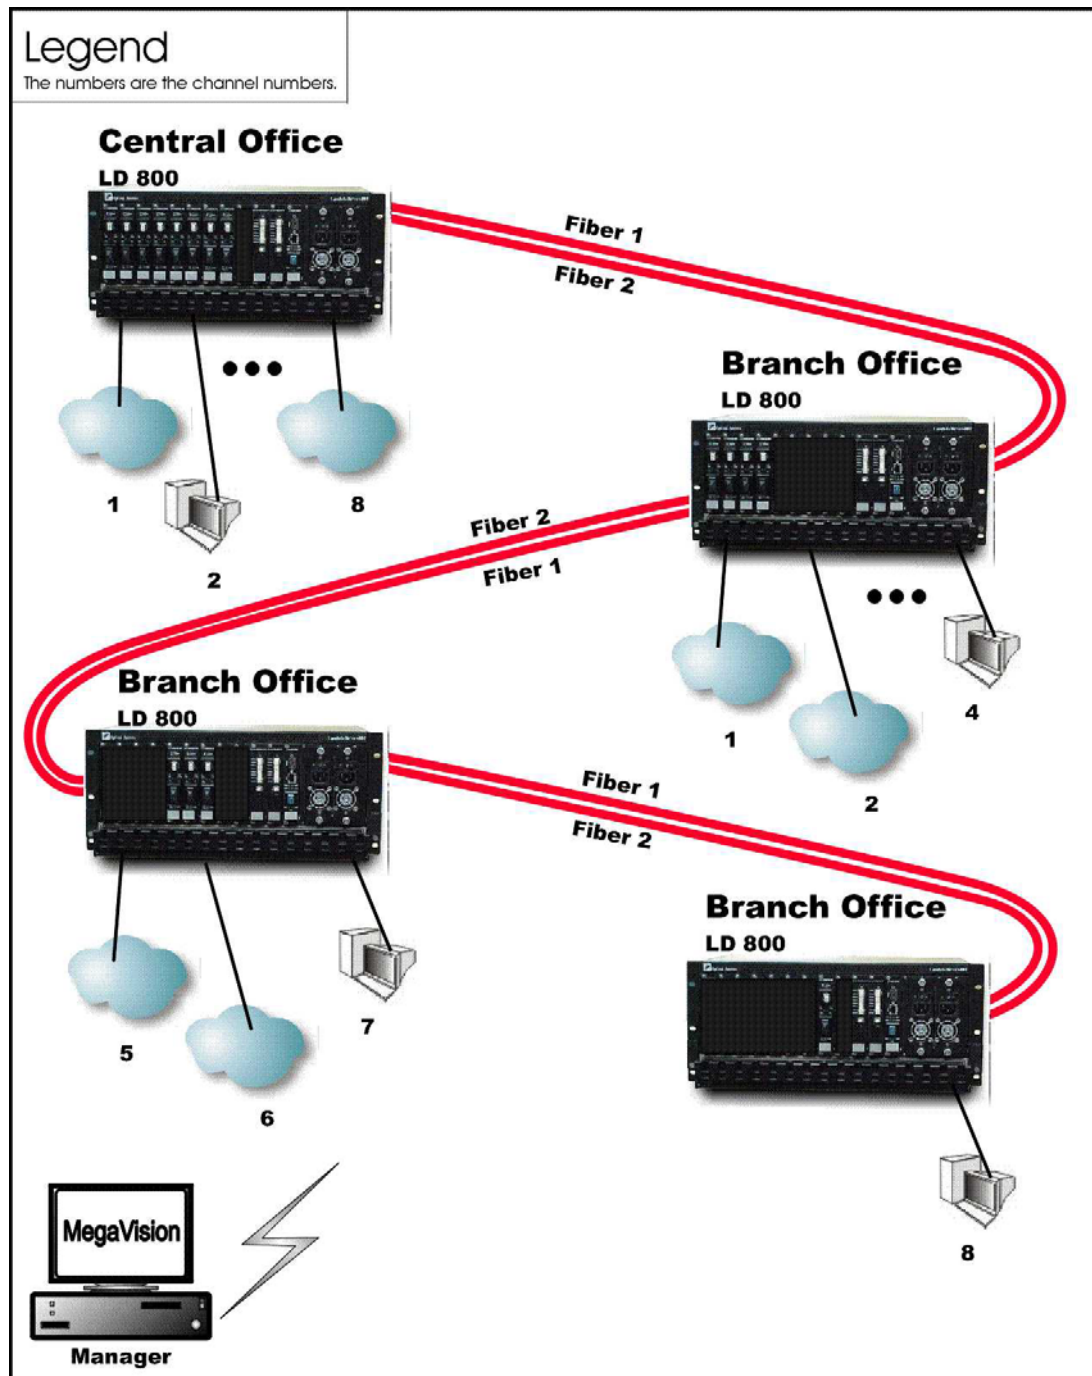

Figure 29: Multipoint with up to 8 Full-Duplex Channels
In Regular Multipoint topology (example shown in *Figure 29*), up to 8 channels can be created across the network. This means that up to 16 access-equipment units (e.g., LANs, PCs, etc.) can be interconnected with this network topology – two per channel. Note that all channels run from the Branch Office (BO) LDx00s to the Central Office (CO) LDx00, i.e., no channels exist between the BOs.